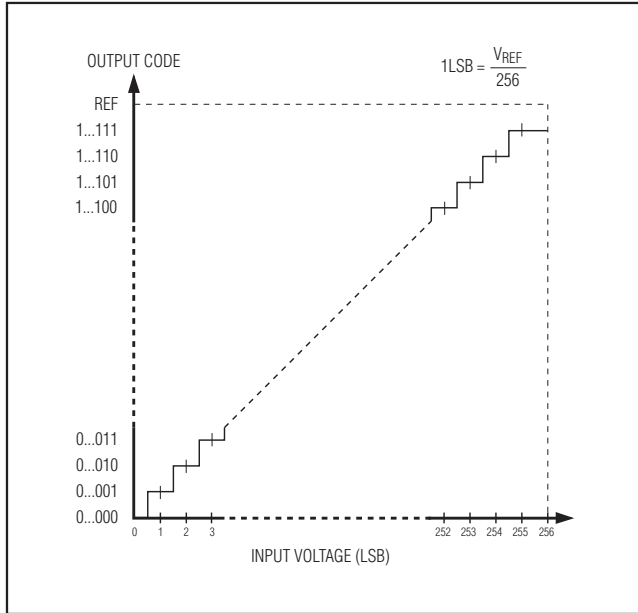

Figure 12. Unipolar Transfer Function
Output data coding for the MAX1036–MAX1039 is binary in unipolar mode and two's complement binary in bipolar mode with 1LSB = (VREF/2N) where N is the number of bits (8). Code transitions occur halfway between successive-integer LSB values. Figures 12 and 13 show the input/output (I/O) transfer functions for unipolar and bipolar operations, respectively.